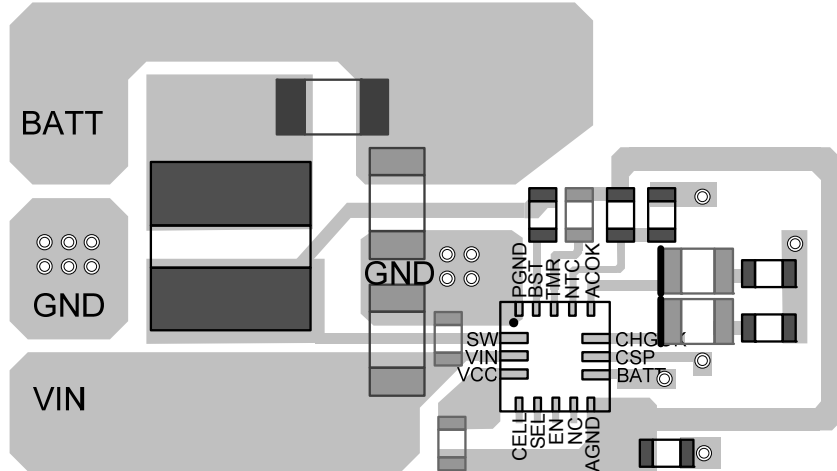

Figure 6: MP2615B PCB Guild Design
- 5) Figure 6 is a PCB layout reference design.